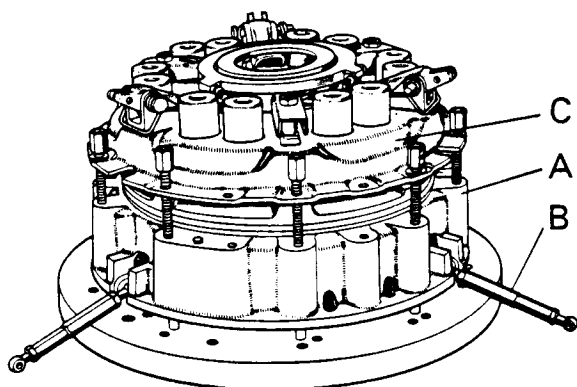

Figure 22. DISMANTLING CLUTCH
6. Remove nuts from the nine long bolts. Unscrew nuts evenly, and by diametrical selection, until the thrust springs are fully expanded, then dismantle clutch from baseplate. (Fig. 22.)